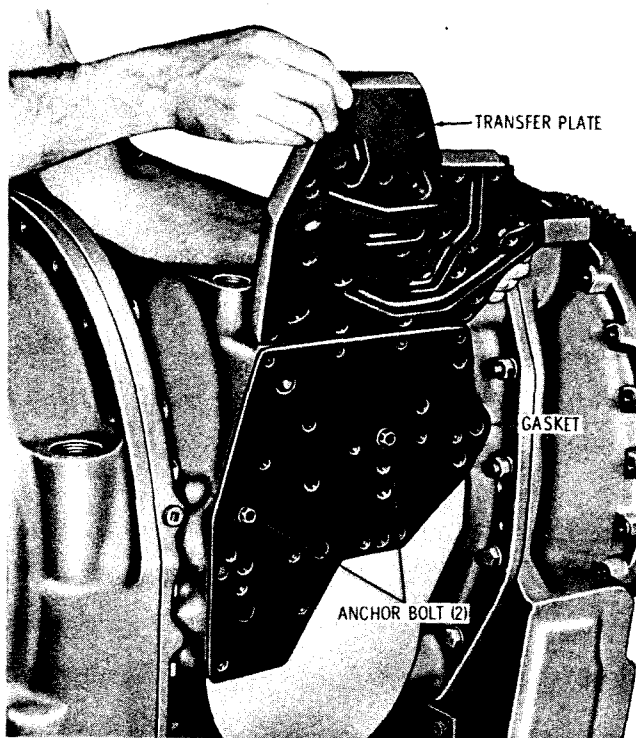

Fig. 7-54. Installing oil transfer plate
(4) Tighten the two anchor bolts to 26 to 32 pound feet torque (fig. 7-54). Install the oil transfer plate gasket and oil transfer plate. Install 3/8-16 x 1 1/2-inch bolts, with lock washers, into the two lower holes in the transfer plate. Do not tighten the bolts at this time.